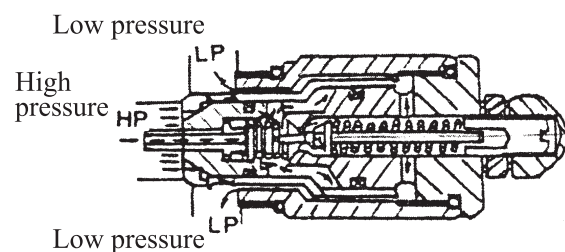

Fig. 7-6
(2) When the pressure in the cylinder port “HP” reaches the set pressure of the pilot poppet spring force, the pilot poppet “E” opens. The oil passes around the poppet, flowing through the drilled hole to the low pressure side “LP”. (See Fig. 7-6)